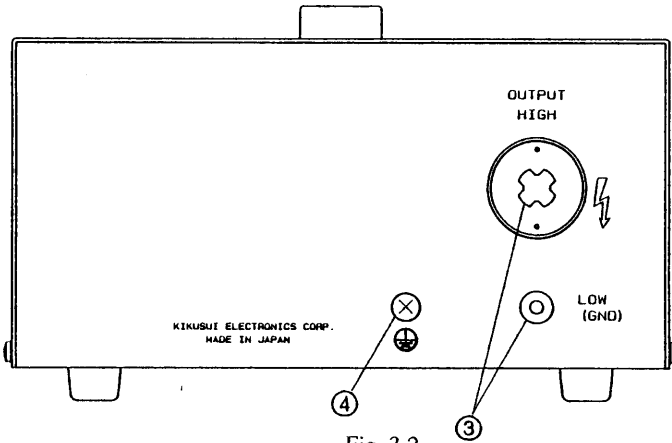

Fig. 3.2
- (3) Connect the device to be tested to the OUTPUT terminals ③ shown in Figure 3.2.
- (4) The terminals ①, ②, and ③ are connected in parallel within the RL01-TOS. You may use terminals ② and ③ interchangeably, if such is more convenient for your use.